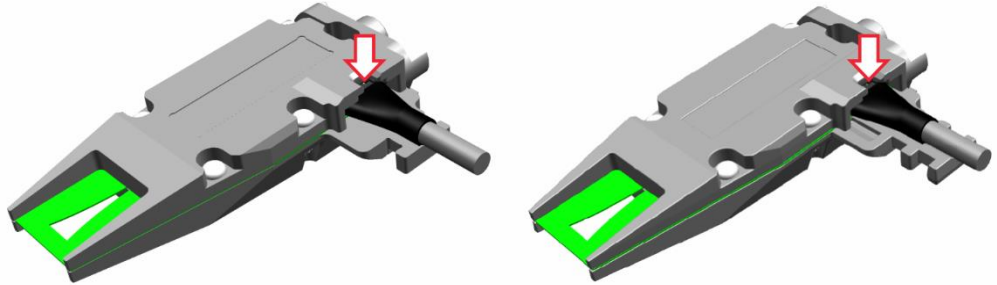

Figure 2-3: Removing cable
3. While you hold down the locking lug, remove the cable. See Figure 2-3: Removing cable.